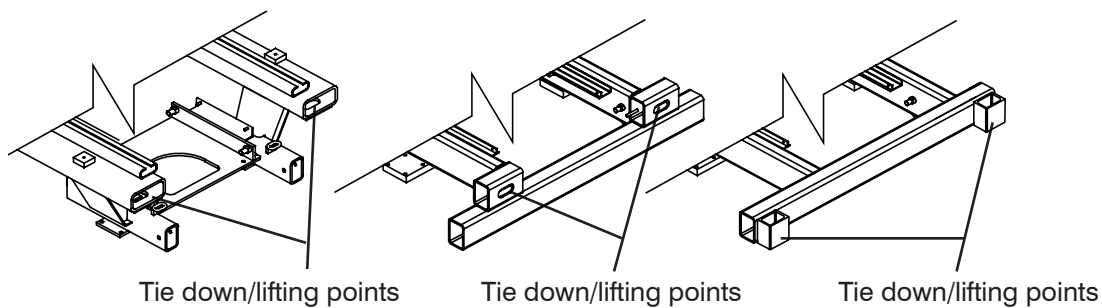

Figure 3-9. Tie Downs/Lifting Points
- The lifting/rigging may be attached to all four lifting points as illustrated in Figure 3-9.
When transporting, the aerial platform must be secured to the truck or trailer deck. Tie downs are available as illustrated in Figure 3.9.